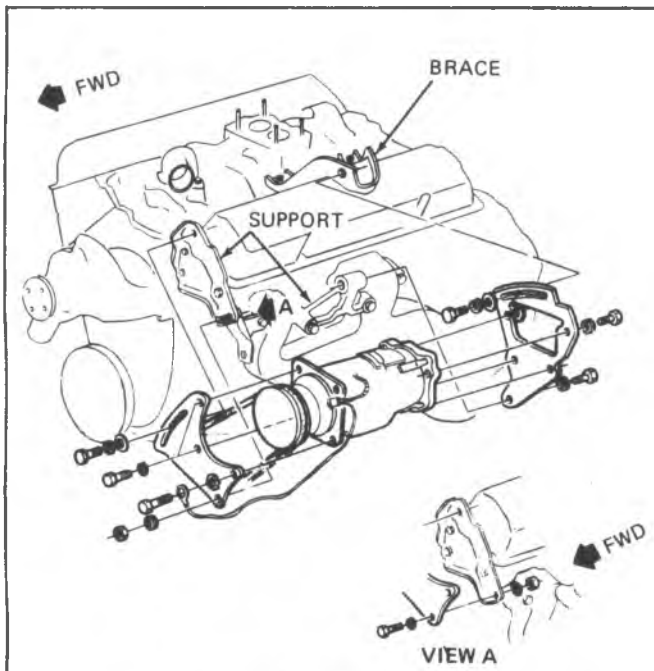

Fig. 6A4-11—A/C Compressor Mounting
6. If the vehicle is equipped with air conditioning, remove the A/C compressor rear brace (fig. 6A4-11).